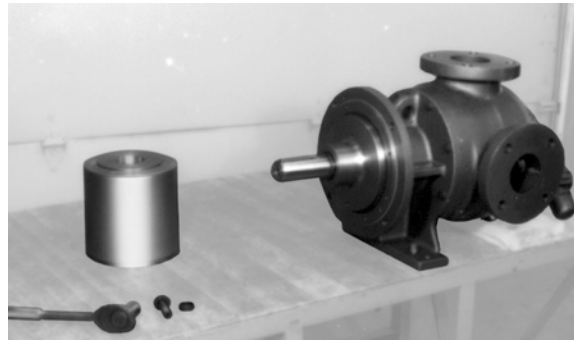
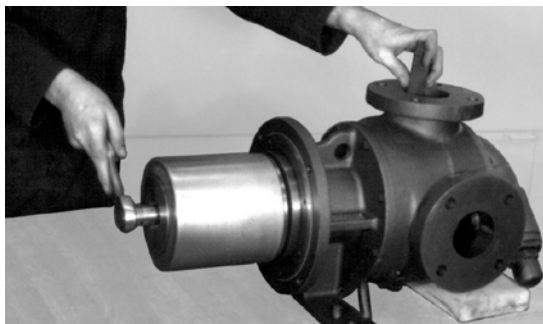

FIGURE 14
FIGURE 13
7. Insert a brass bar through a port between two rotor teeth and loosen the capscrew holding the inner magnet onto the shaft. See Figure 13. The 0.437" capscrew has right hand threads therefore turn it counterclockwise. **THE INNER MAGNET HAS A VERY STRONG MAGNETIC FIELD AND IS MOST DANGEROUS IN THE UNASSEMBLED CONDITION. THE MAGNET IS QUITE HEAVY AND WILL BE DRAWN TO ANY FERROUS OBJECT OR SURFACE CAUSING POTENTIAL PINCHING. BEWARE OF THE CAUTIONS LISTED ON (PAGE 3). USE EXTREME CARE SLIDING THE MAGNET OFF OF THE PUMP SHAFT. SET THE MAGNET DOWN ON EITHER END AWAY FROM ALL OTHER OBJECTS.** See Figure 14. Remove the key and the external snap ring (LQ & LS) and then finish disassembly of the pump.